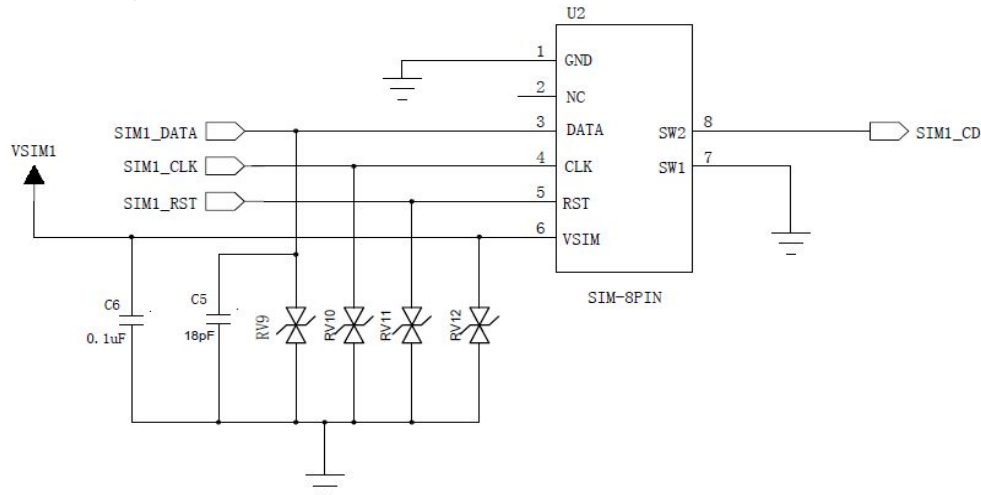

Figure 5-7 Reference Design of “Normally Closed” SIM Card Interface
- For “Normally closed” design, as shown in the figure5-7, the SIM1_CD signal is connected to U2's Pin8 (SW2), and Pin7 (SW1) is connected to the ground. When the SIM card is not inserted, SW2 and SW1 are shorted, and SW2 is low. When the SIM card is inserted, SW2 and SW1 are opened, and the SIM1_CD signal will be pulled high.